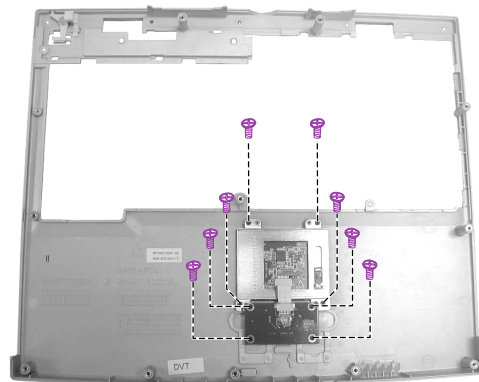

Figure 2-27 Remove the touch-pad
2. Remove the eight screws to lift up the touch pad holder and touch pad panel. (Figure 2-27)